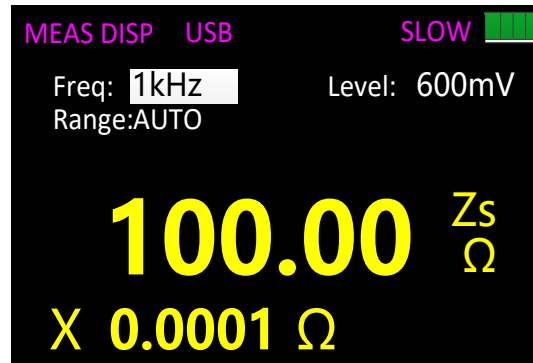

Figure 17
2. Press the **AUTO/R/C/L/Z** key until Zs is displayed on the interface which means to select impedance measurement, shown in figure 17;